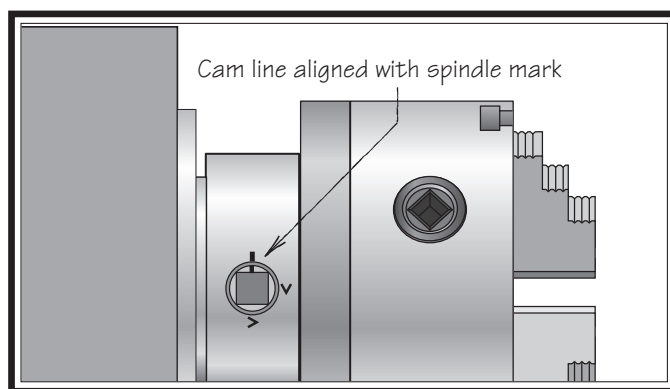

Figure 34. Camlock is fully loosened when the cam line is aligned with the spindle mark.
3. Loosen the camlocks by turning the key counterclockwise until each of the cam lines are aligned with its corresponding spindle mark (see **Figure 34**).